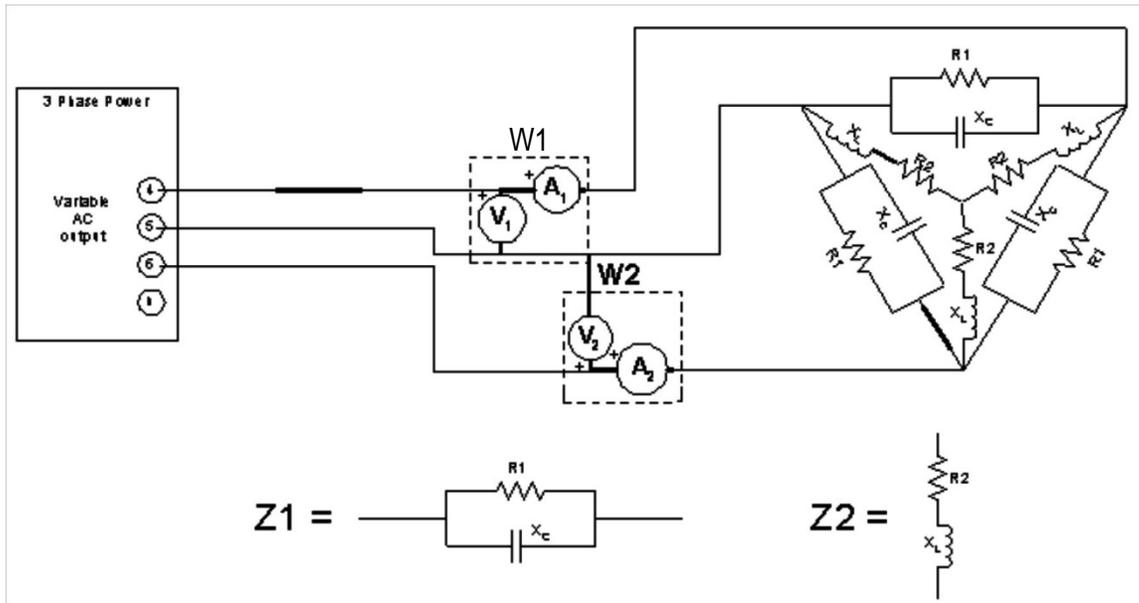

FIGURE 3.12
- Step 1: Connect the circuit shown in Figure 3.12. $R_1=R_2=300\Omega$, $X_C = 400\Omega$, and $X_L=300\Omega$. Use the variable AC output of the power supply as your power source. Adjust the line voltage to 120Vac.